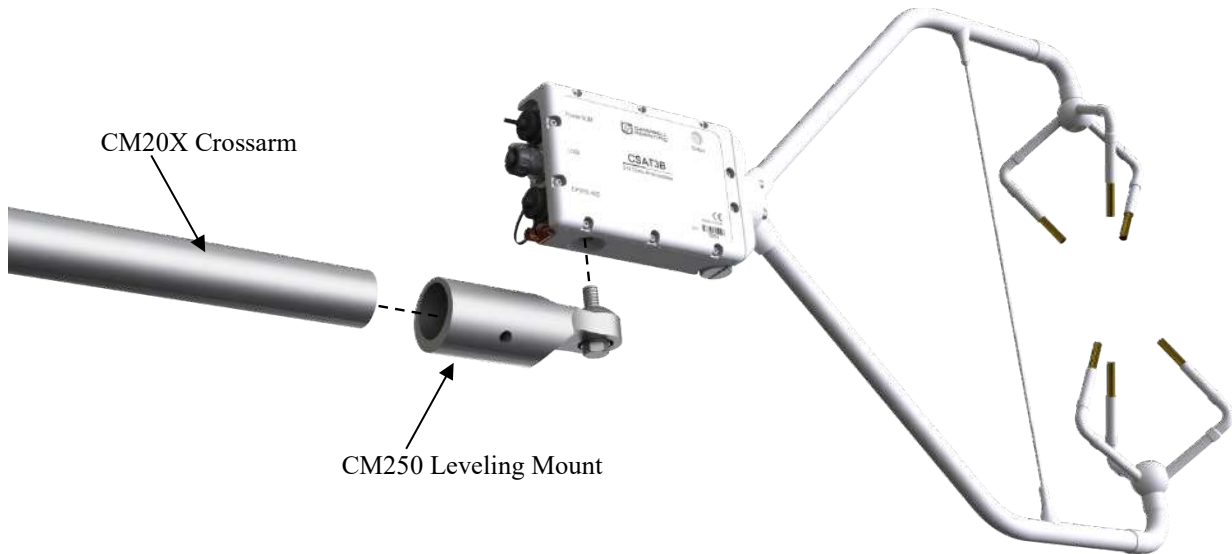

FIGURE 7-4. CSAT3B mounting
3. Attach the CM250 leveling mount (included with the CSAT3B) to the crossarm by tightening the set screws on the boom adapter with a 3/16-in hex socket head wrench. Refer to FIGURE 7-4.
4. Attach the CSAT3B to the leveling mount by inserting the bolt on the mount into the threaded hole on the bottom of the CSAT3B block as shown in FIGURE 7-4.